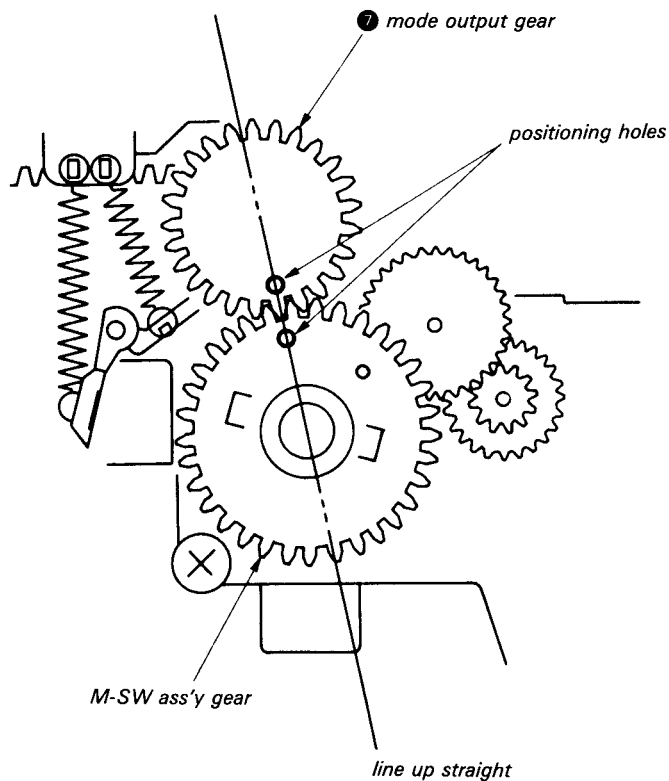

Fig. 7-39.
- 8) Mount the mode output gear ⑦ so that the positioning holes are lined up. (See Fig. 7-39.)
- 9) Mount stopper washer ⑥.
- 11) Mount B release arm ⑤ and tension spring ④.
- 13) Mount the LD-1 board ③.
- 14) Mount drive gear B assembly ② and stopper washer ①.